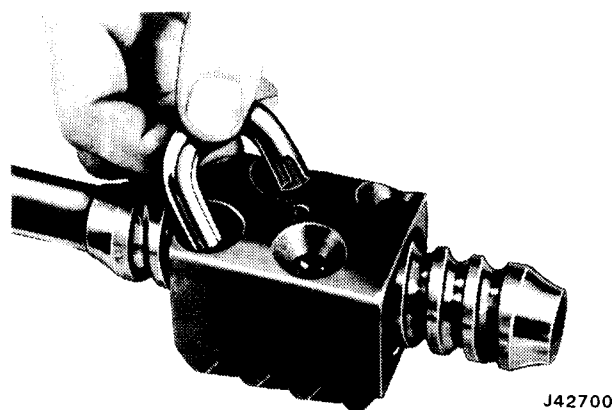

Fig. 11-56 Installing Ball Guides
(3) Install ball guides in ball nut (fig. 11-56). Hold them in place with fingers and install 5 more balls in each circuit through hole in top of ball guide.